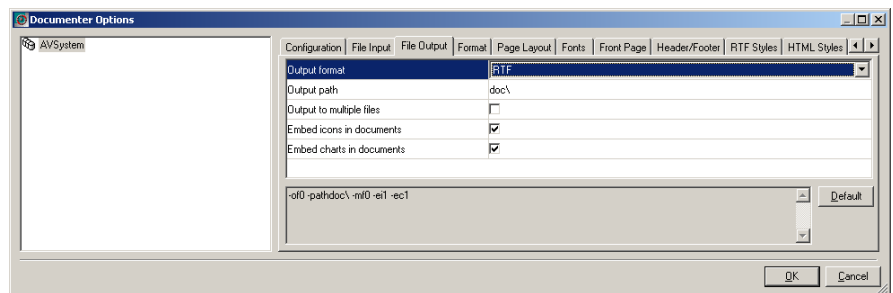

Figure 188: Documenter Options dialog box, File Output tab
- 1 Open the Documenter Options dialog box (as described in *General*, page 261), and click the File Output tab. See *Figure 188*, page 266.